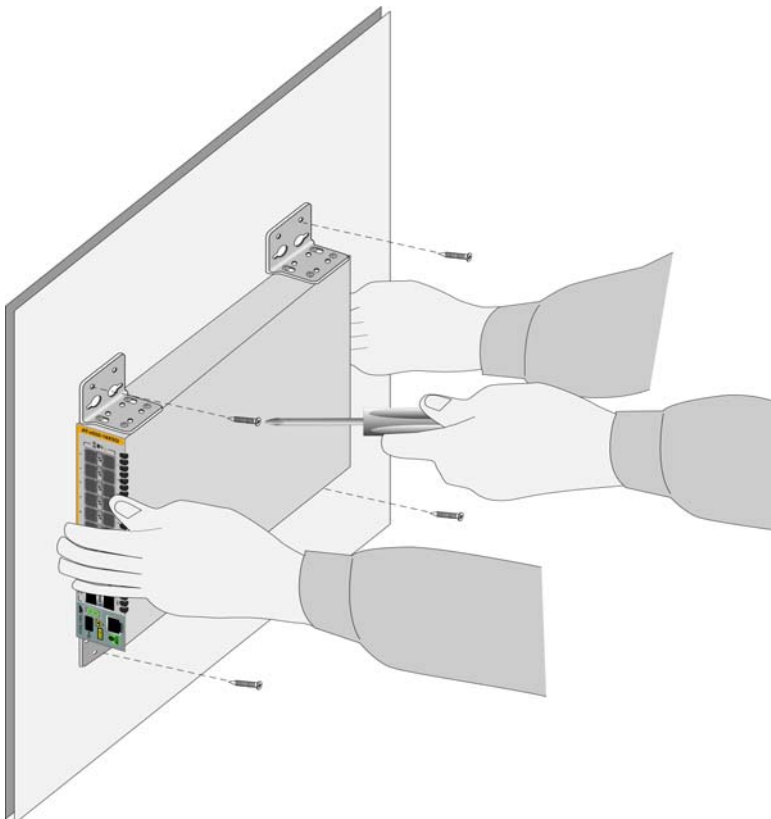

Figure 47. Installing the Switch on a Concrete Wall
8. Have another person hold the switch at the selected wall location while you secure it to the wall with the M4x32mm provided screws. Refer to Figure 47 on page 89.